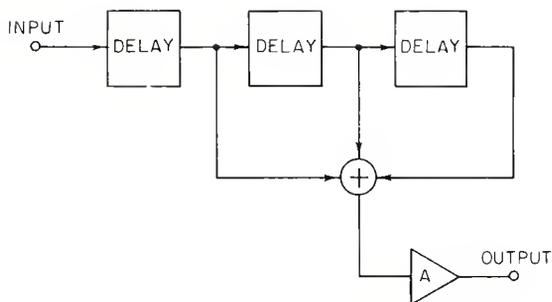
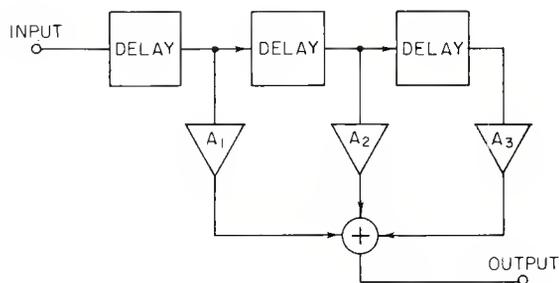
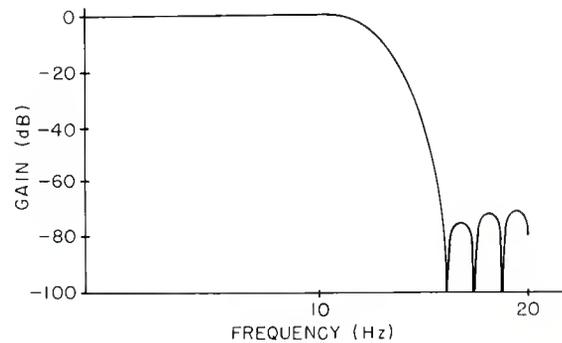

Figure 1. A basic digital low-pass filter.
Figure 2. A tapped-delay filter.
Figure 4. Frequency response of a 32-tap low-pass filter.
FIGURE 1 is a block diagram of how this algorithm might be implemented digitally. Three consecutive samples are added and the sum is multiplied by $\frac{1}{3}$ at A. In practice, however, a more general and versatile form of this filter is employed (see FIGURE 2). If each of the three multipliers (A1, A2, A3) is set equal to $\frac{1}{3}$, it should be evident that this filter is equivalent to the one shown in FIGURE 1. However, the structure of FIGURE 2 is preferred, because it allows the individual tap multipliers, called coefficients, to be selected independently. The greater the number of taps employed, the more control one has over the characteristics of the filter. The name given to this class of tapped-delay filter is "non-recursive, finite-impulse, linear-phase response." FIGURE 3(A) shows a first-order, non-recursive filter, while FIGURE 3(B) demonstrates the effect of varying the coefficient of the filter multiplier, A. Not surprisingly, a single tap doesn't result in impressive performance. However, if enough taps are used, and the coefficients are correctly chosen, any arbitrary frequency response may be realized. FIGURE 4 is an example of the type of response possible using only 32 taps. Although the response is nifty, an awful lot of operations are required to obtain it. Take heart: there is a more-efficient method.